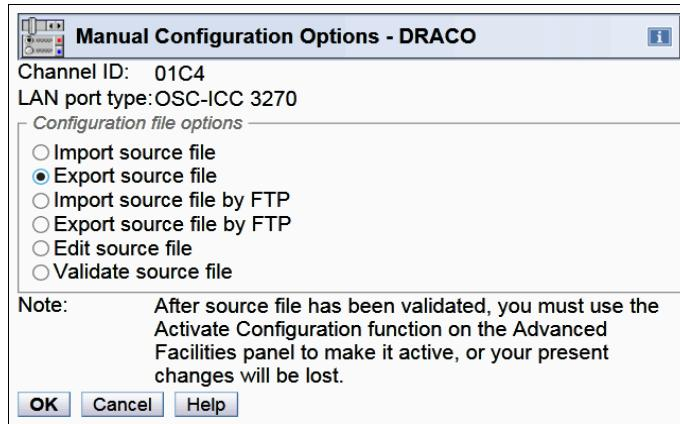

Figure 7-16 Export source file
- The Manual Configuration Options window opens (Figure 7-16). Select **Export source file** and click **OK**.